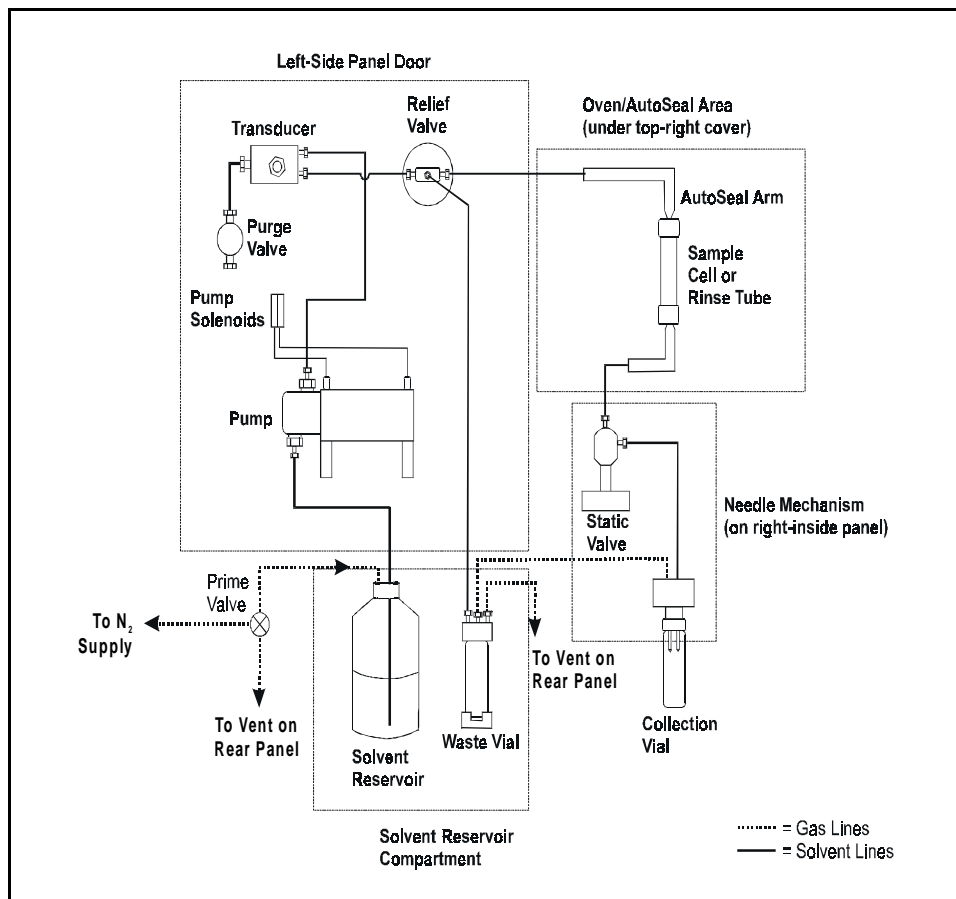

Figure 3-22. Solvent Flow Schematic
- Check for leaks from the solvent reservoir, pump, valves, and other components in the flow path (see Figure 3-22). Wipe up liquids and tighten or replace leaking fittings (see Section 5.2).